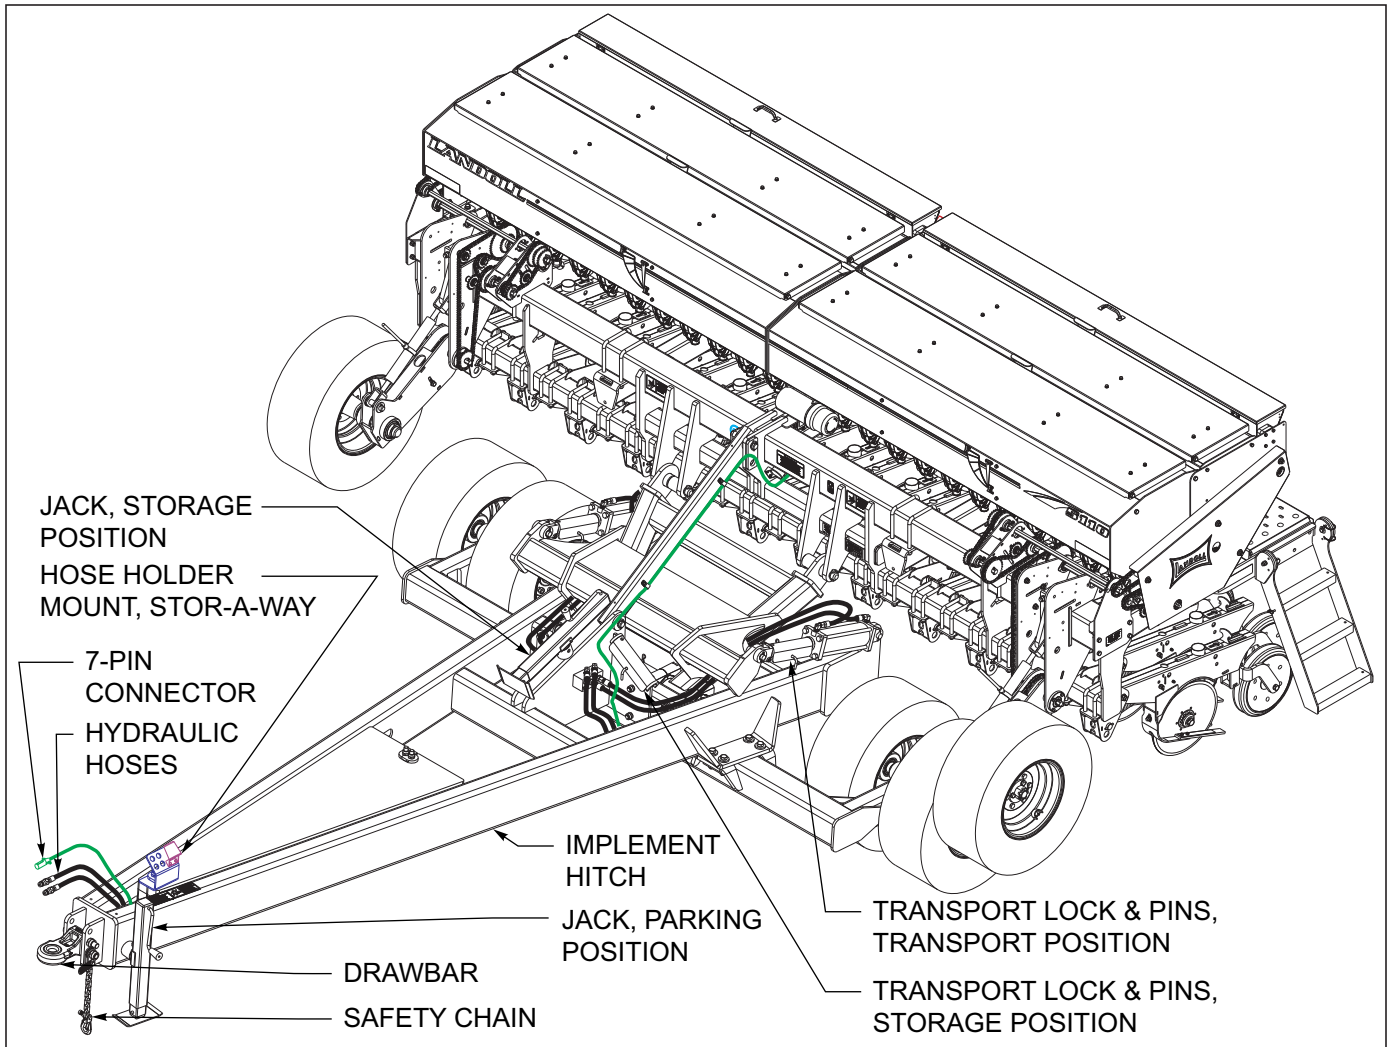

Figure 4-11: Jack Parking and Storage Position - Pull Hitch
- f. Move the jack from the storage position and place in the parking position at the front of the hitch *See Figure 4-11* If storing on soft ground, place board/plate under the jack for a wider footprint.